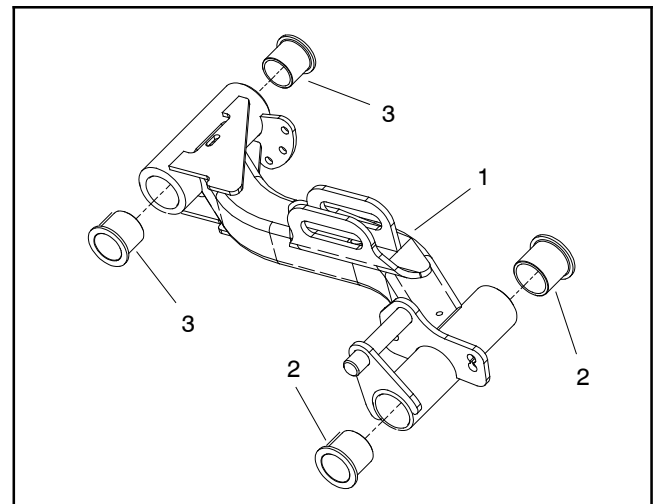

Figure 23
7. Remove lynch pin (item 12) and thrust washer (item 13) from rear of pivot yoke. Slide pivot yoke assembly from lift arm. Locate and retrieve front thrust washer (item 13).
8. Remove two (2) flange head screws (item 6) that secure spring catch to machine. Remove spring catch, torsion springs (items 23 and 24), two (2) spacers (item 1) and two (2) washers (item 25).
11. Inspect bushings in lift arm and pivot yoke for wear or damage. If necessary, replace bushings (Figs. 23 and 24).